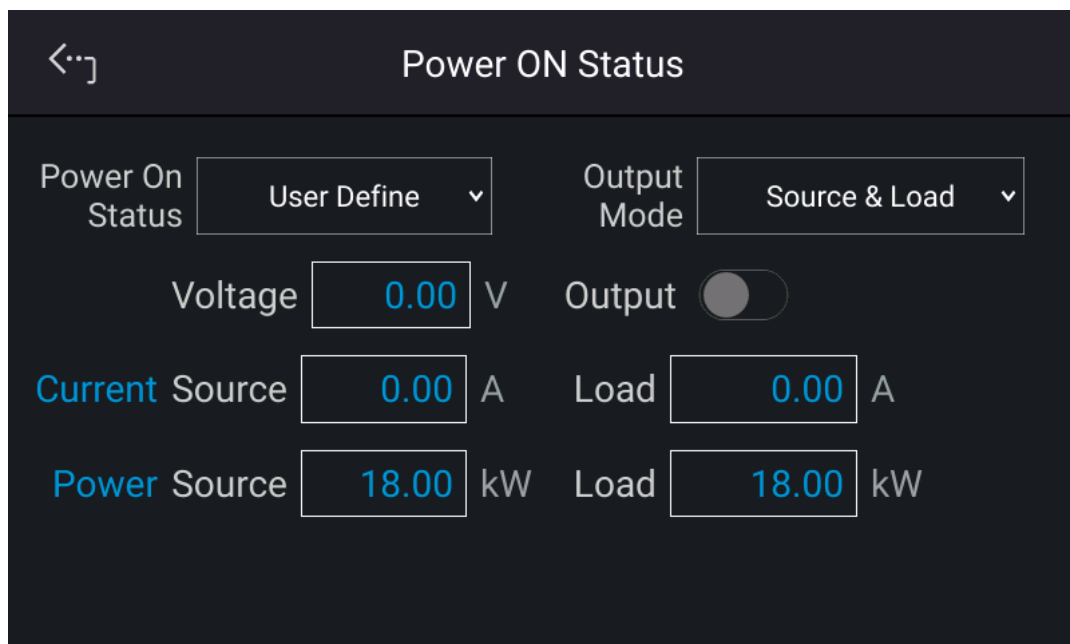

Figure 3-78
- C. When set to User Define a setting line will prompt beneath the Power ON Status line as Figure 3-78 shows to set the default power-on state including voltage (V_SET), current (I_SET), and $OUTPUT=ON/OFF$.